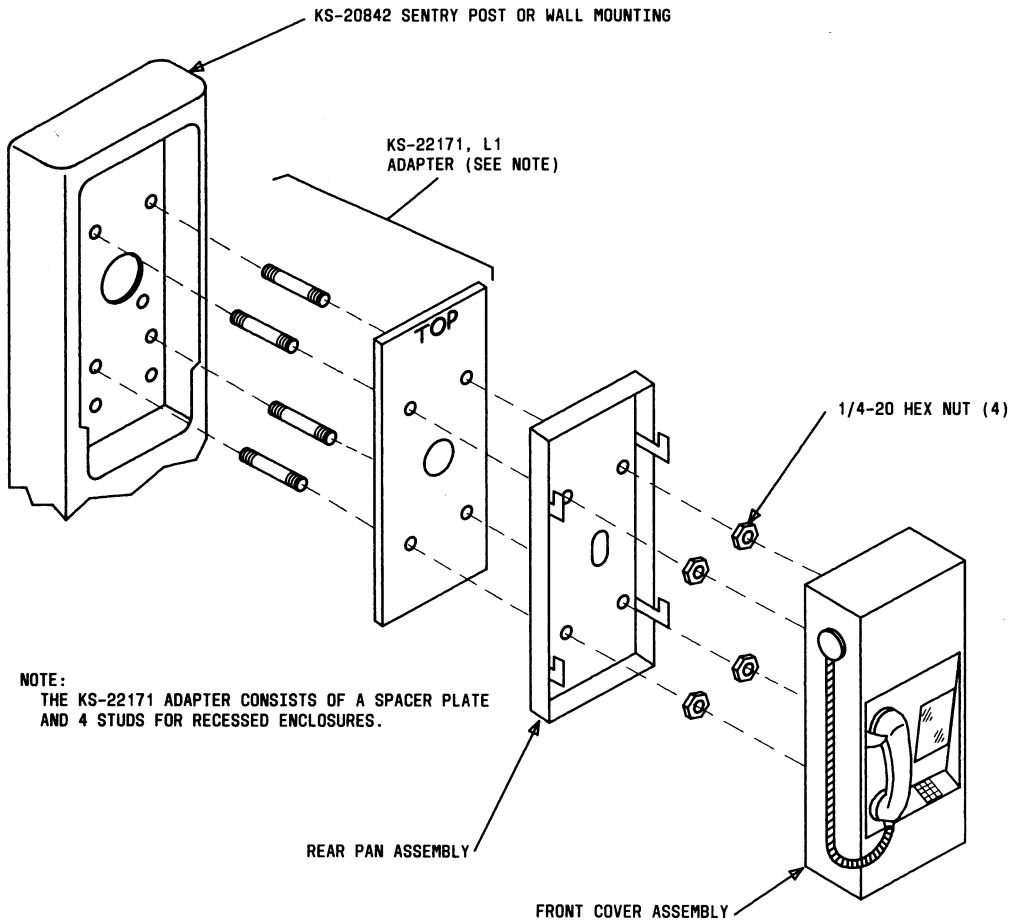

Fig. 6—10A Coinless Telephone Set Used With Adapter
that will accept a 1-type coin telephone set; however, when a recessed enclosure is encountered, such as the SENTRY\* mounting or wedge shelf, a KS-22171, List 1 adapter (Fig. 6) is required.
**Note:** On the KS-21571 deluxe wedge shelf and KS-20842 SENTRY mounting, a KS-22171, List 1 adapter is required (Fig. 6).